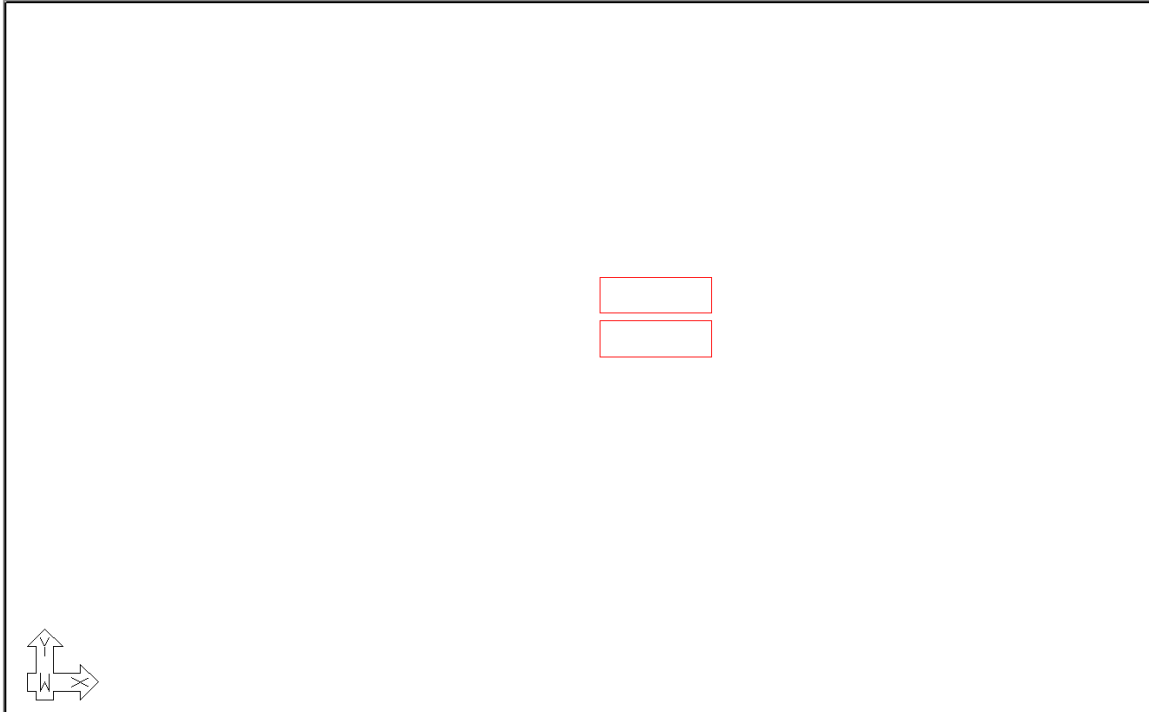

FIGURE 3-21
- Click on the **OK** button, the user should now see the polylines from the imported DWG as shown in **FIGURE 3-21**.